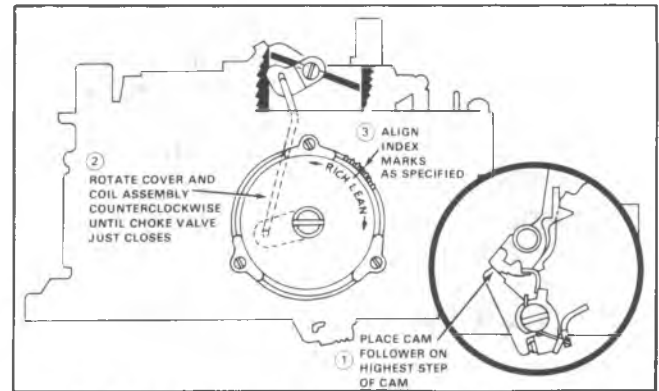

Fig. 51—Automatic Choke Coil Adjustment - Hot Air
Hot Air (Fig. 51)
1. Install choke thermostatic coil and cover assembly with gasket in choke housing (no gasket is used on M4ME) and align index mark on cover with specified point on housing (see Automatic Choke Coil Adjustment, Figures 51 and 52).